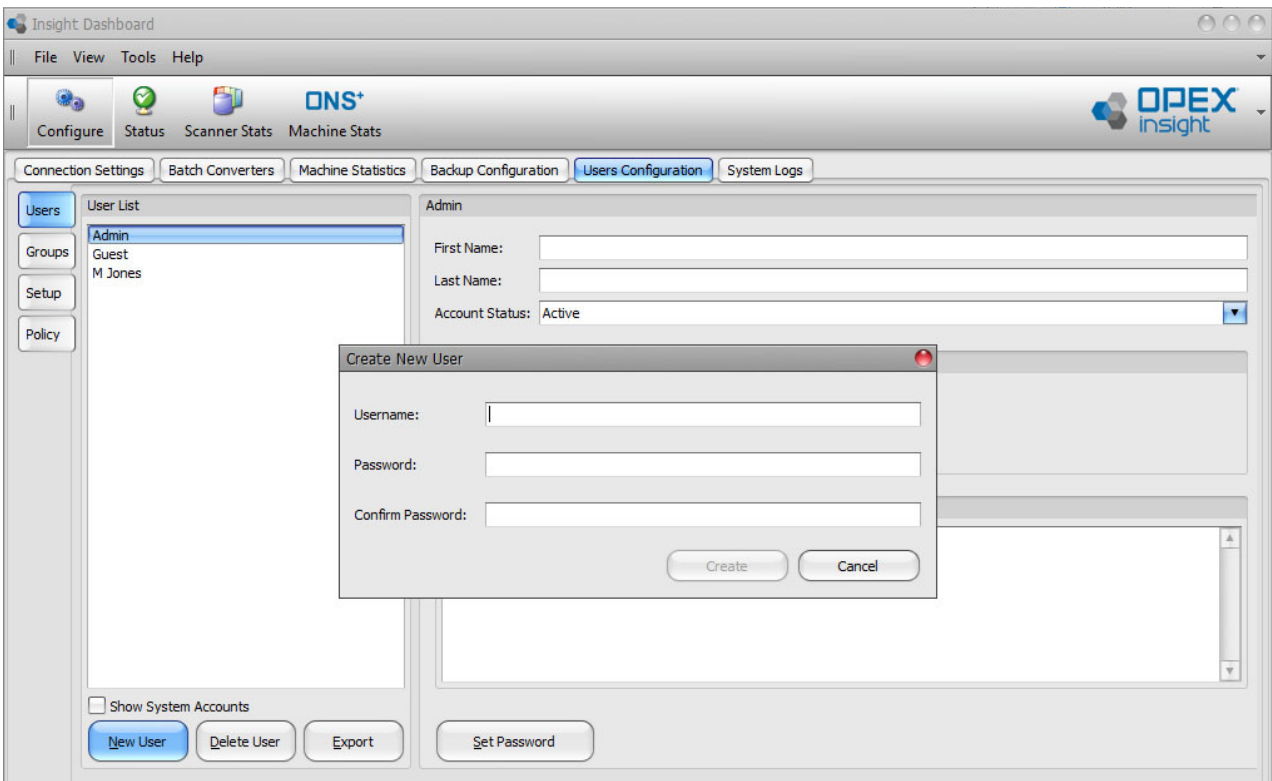

Figure 2-6: Create New User window
2. Click the **New User** button. The Create New User window appears (Figure 2-6).